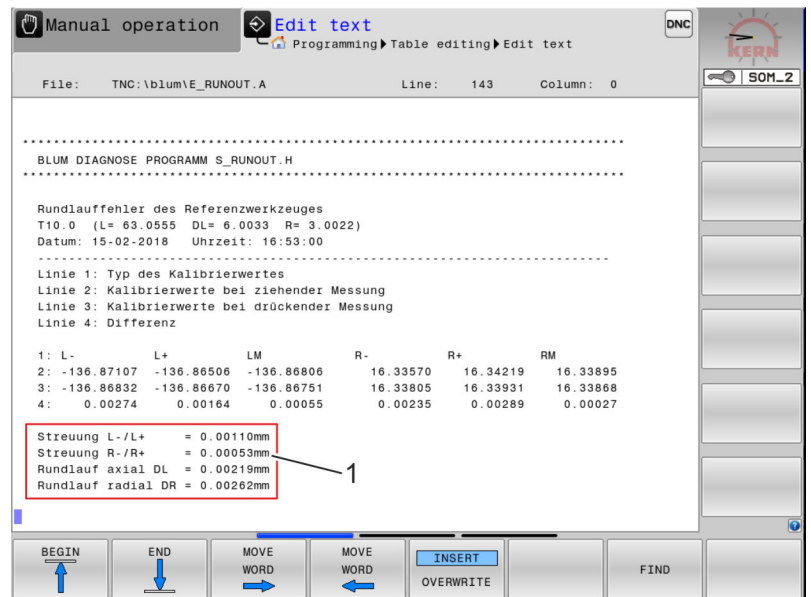

Fig. 64: Radial true running error
3. Check that all the displayed values (Fig. 64/1) are < 0.005 mm.